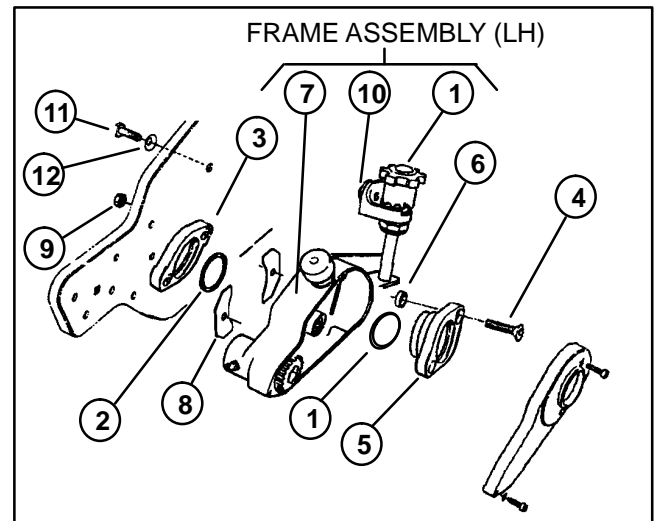

Figure 26
5. Secure mounting block to the frame with cap screw and belleville washer (Fig. 26).